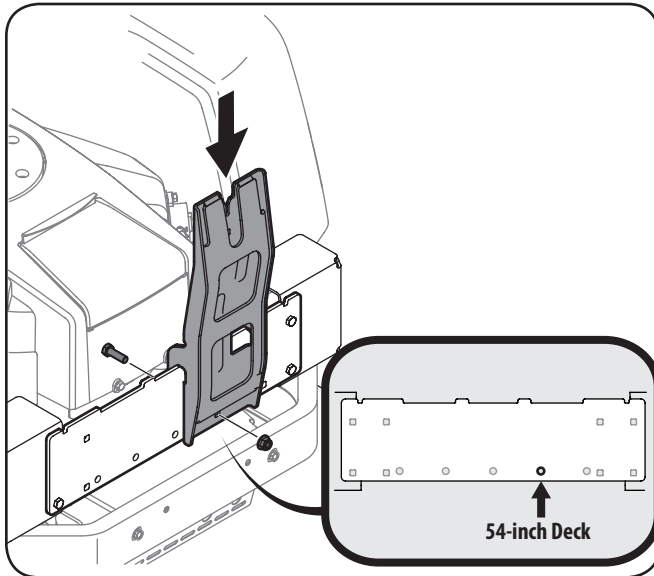

Figure 4-4
4. Install the upright support bracket onto the mounting assembly on the tractor by hooking it over the mounting assembly as shown in Figure 4-4.
- Secure the upright support bracket to the mounting assembly in the mounting hole just to the right of center, as indicated in Figure 4-4, with a 710-0376 hex bolt and 712-04063 flange lock nut from hardware pack 689-00320. See Figure 4-4.